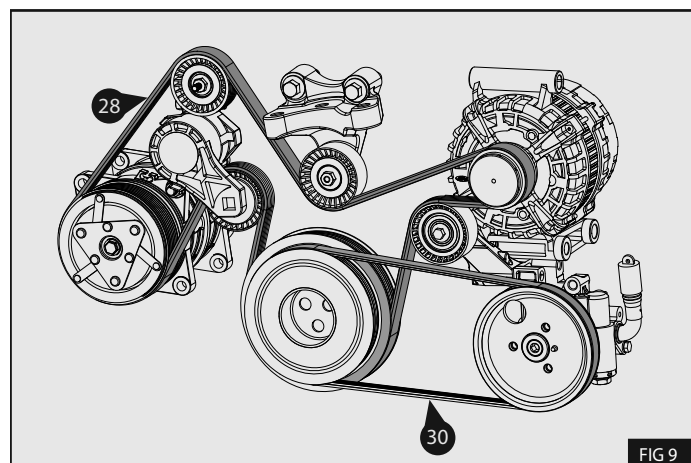

FIG 9
1. Fit the supplied replacement poly groove engine drive belt (28) to the engine in the same configuration in accordance with the original manufacturers design - Fig.9